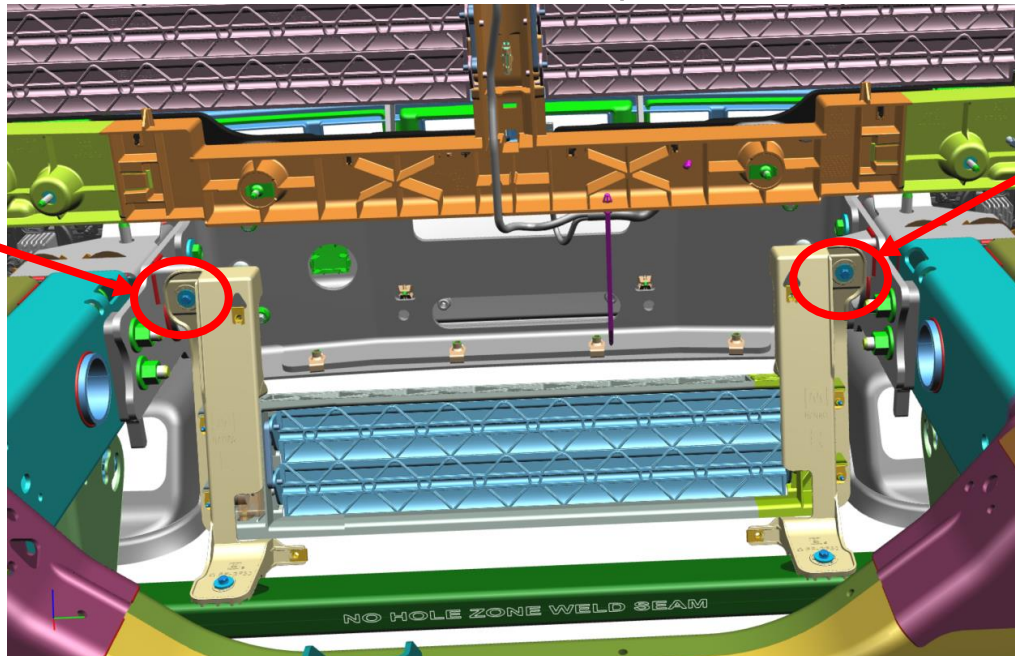

Figure 11 – Backside AEV GMC Front Bumper and Shutter-Baffle
- b. Install [1] M4 Bolt (M7 Socket) per side – Fig. 11